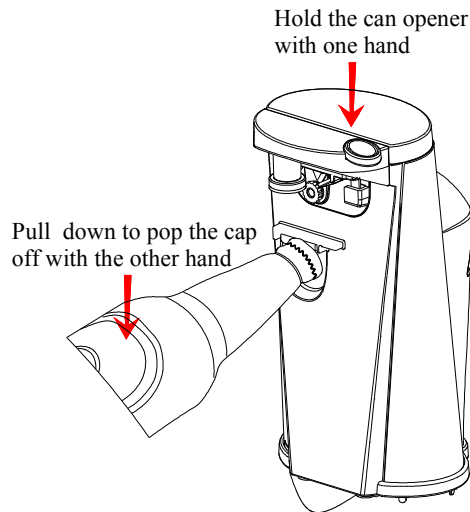

Fig. 4
1. To open a bottle, grasp it and position the cap under the metal hook part in the bottle opener (see Fig. 4).